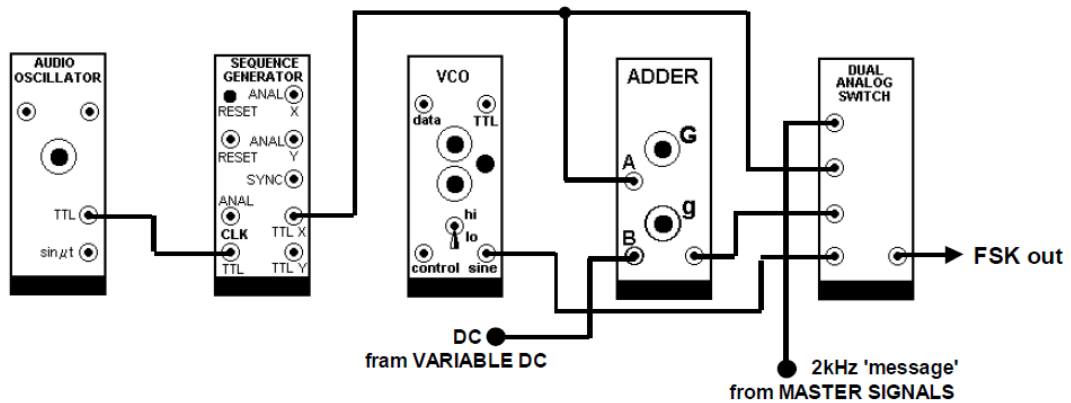

Figure 5: General Method of FSK Generation
A general method of FSK generation with higher degree of freedom is shown in Figure 5.
1. Connect the circuit in Figure 5.